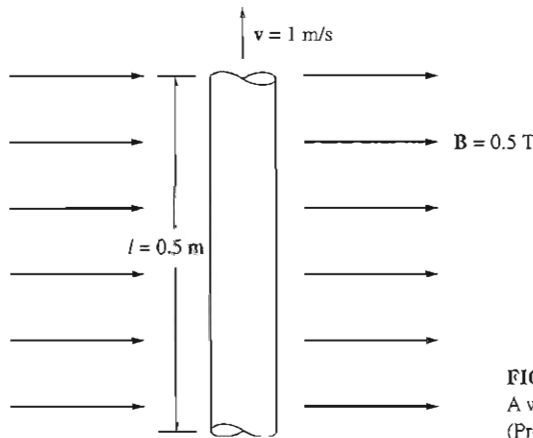

FIGURE P1-8
- 1-11. Repeat Problem 1-10 for the wire in Figure P1-8.